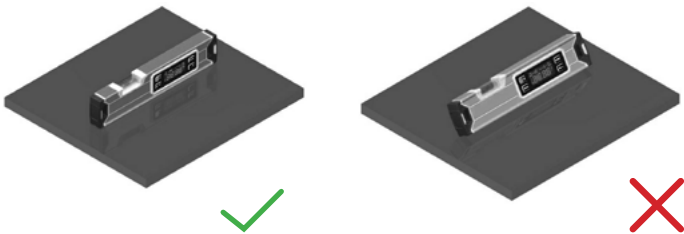

Figure 1
- Press (1) to turn the device on. Press and hold (1) for 3 seconds to turn the device off. The device will shut down in 3 minutes of no activity.
- To measure, place the device on a flat surface (Fig. 1).